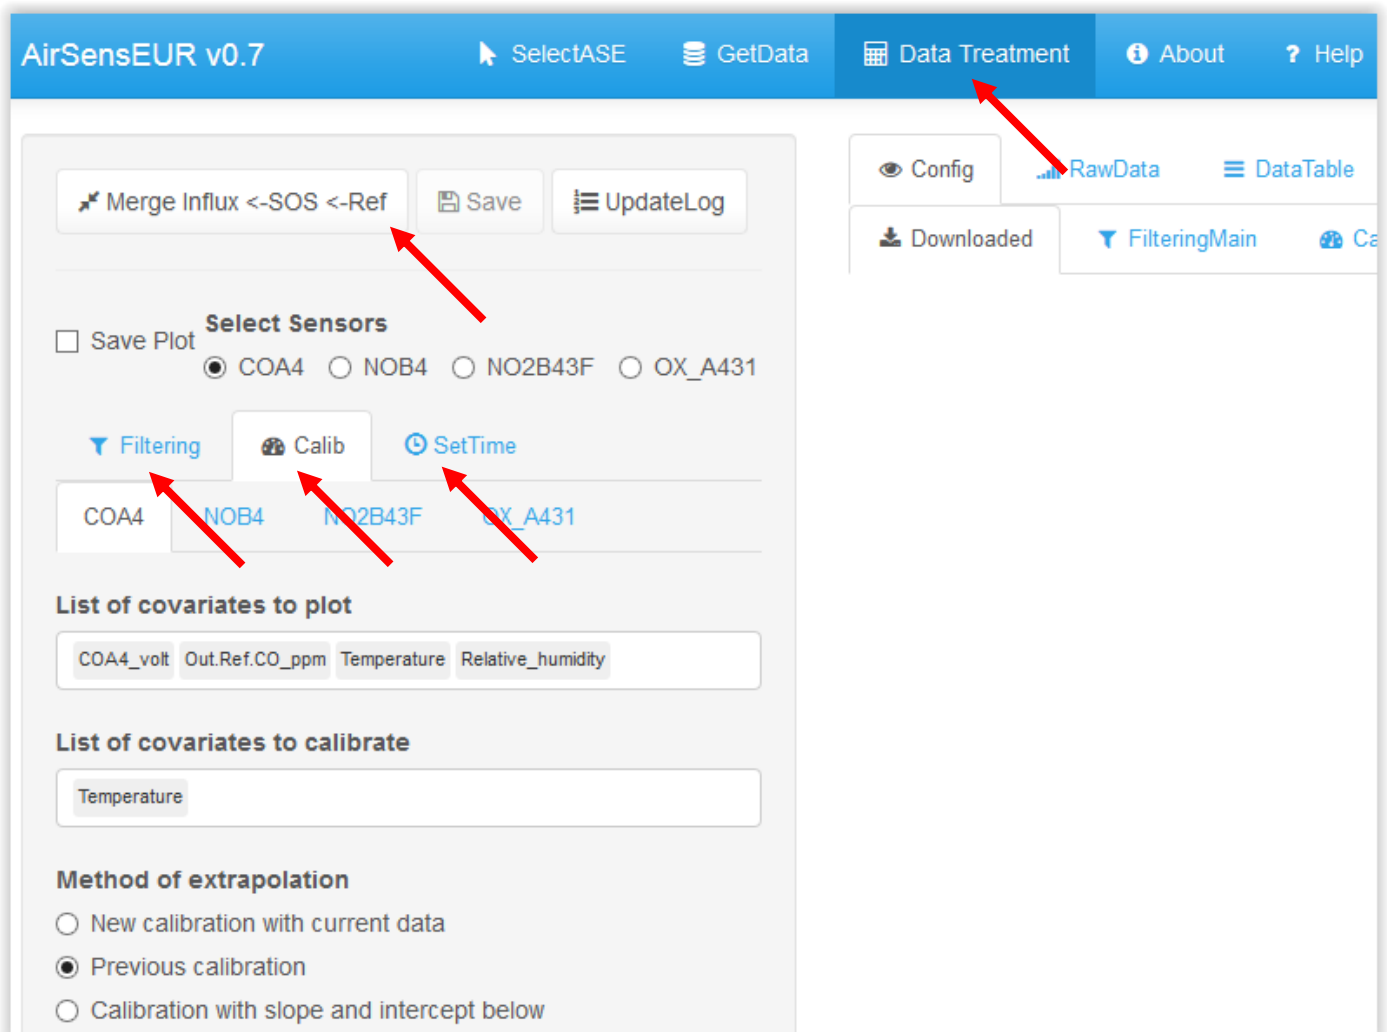

Figure 8: AirSensEUR R/Shiny web interface for AirSensEUR. Menu "Data Treatment"
At the end of the downloading of sensor and reference analysers data, click on the NavBar menu "Data Treatment" on top of the browser window. A new window will open in the browser. as shows Figure 8 and). The three tabs "Filtering", "Calib" and SetTime are opened once and all controls are updated. This may take a bit of time. It is suggested to click at least once on all sub menu.
- Click on the "Merge Influx, SOS – Ref" button", see Figure 8.